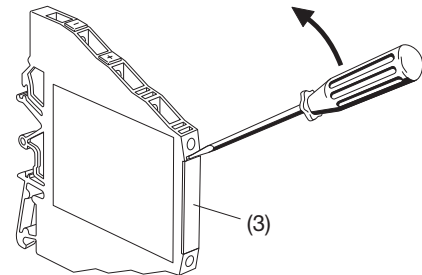

Fig. 7
To access the programming connector remove the front cover (3) (Fig. 7).